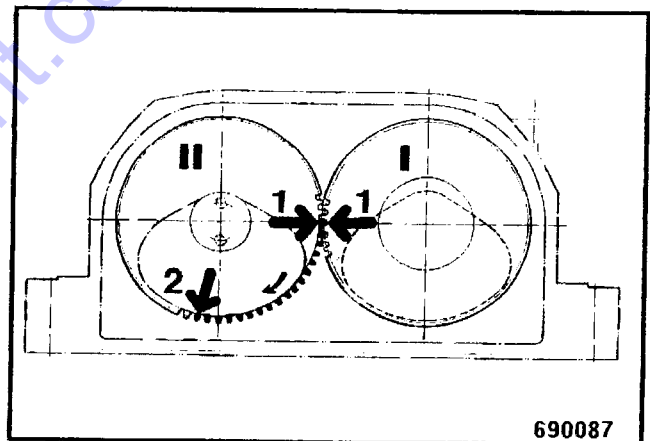

Fig. 8
- Mark the meshing point 1 (Fig. 8) on both gears with a felt pen.
- Count from this mark (1) 18 teeth on gear II in clockwise direction and mark this point (2) with a felt pen.